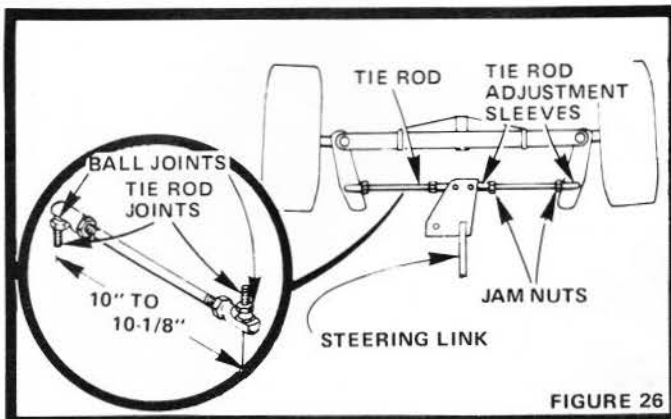

FIGURE 26
- Move Rubber Boots to expose Ball Joints on Tie Rods and Steering Link (Fig. 26).
- Loosen Jam Nuts (Fig. 26) at each end of Tie Rod Adjustment Sleeves.